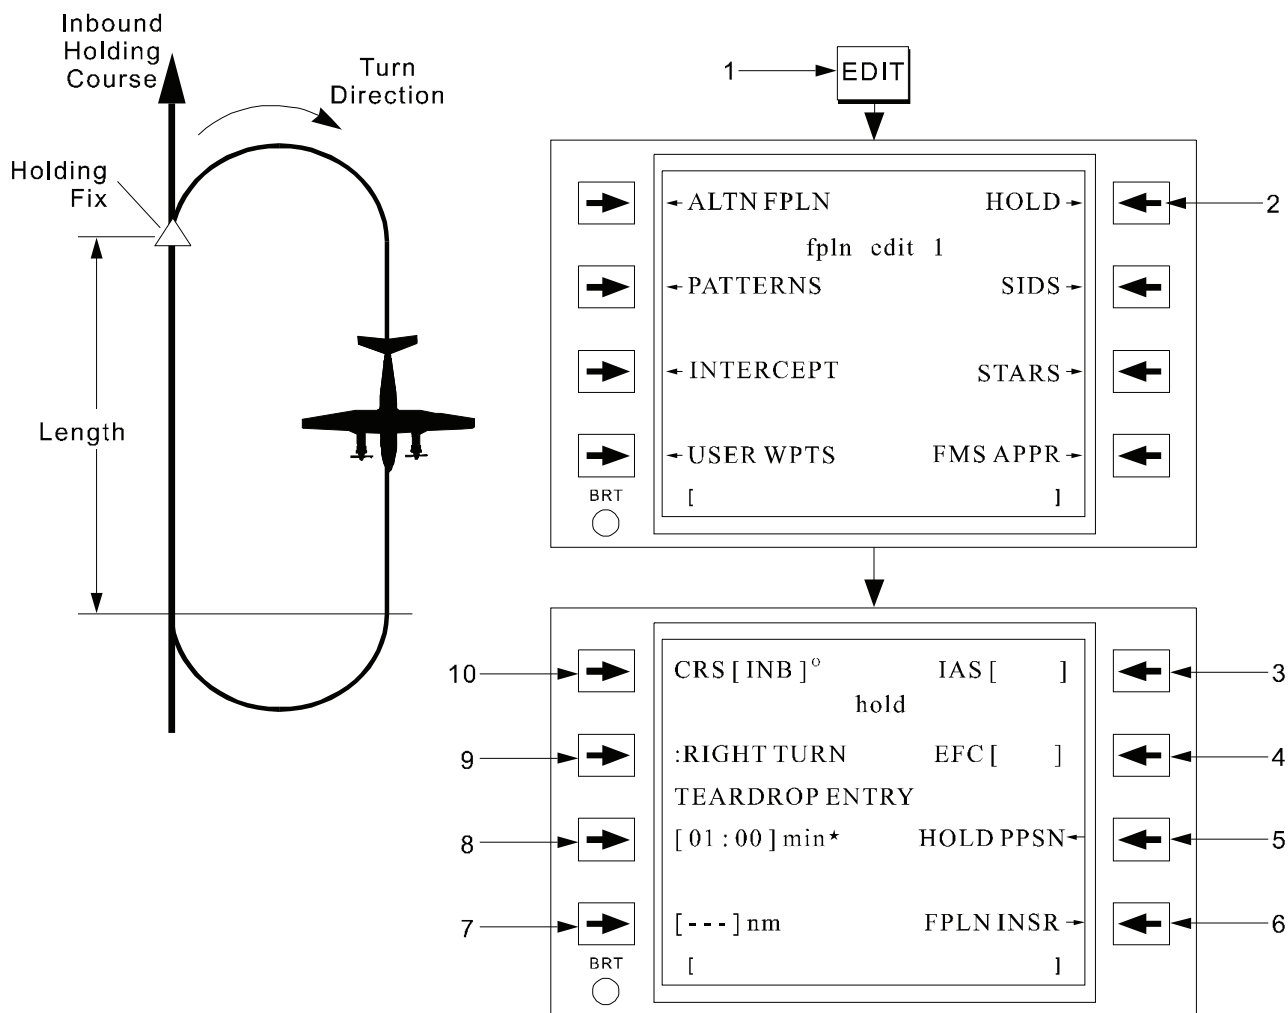

Figure 3B-65. User-Defined Holding Pattern Definition
(2) *Holding Pattern Entry Guidance.* An advisory and steering guidance for the entry method is computer in accordance with standard FAA procedures. The geometry for a standard (clockwise) holding pattern is shown in Figure 3B-65. For left-hand turns, a mirror image of each entry procedure applies. This advisory is displayed on the Hold page. Refer to Figure 3B-65 and Table 3B-49.
Prior to entering the holding pattern, the entry advisory will show the expected entry based on the inbound course to the holding fix. When the aircraft passes the holding fix, the advisory will be updated to show the actual entry in progress based upon the aircraft track at the holding fix. Refer to Figures 3B-66, 3B-67, 3B-68, and 3B-69 for possible entries into the holding pattern.